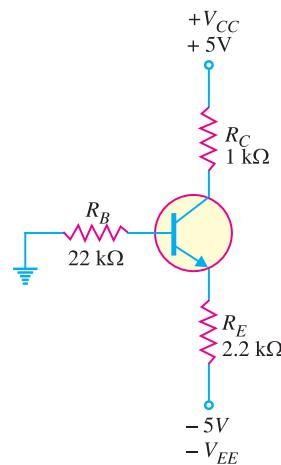

Fig. 9.55
13. To what value can  $R_E$  in Fig. 9.55 be reduced without transistor going into saturation ? [639Ω]